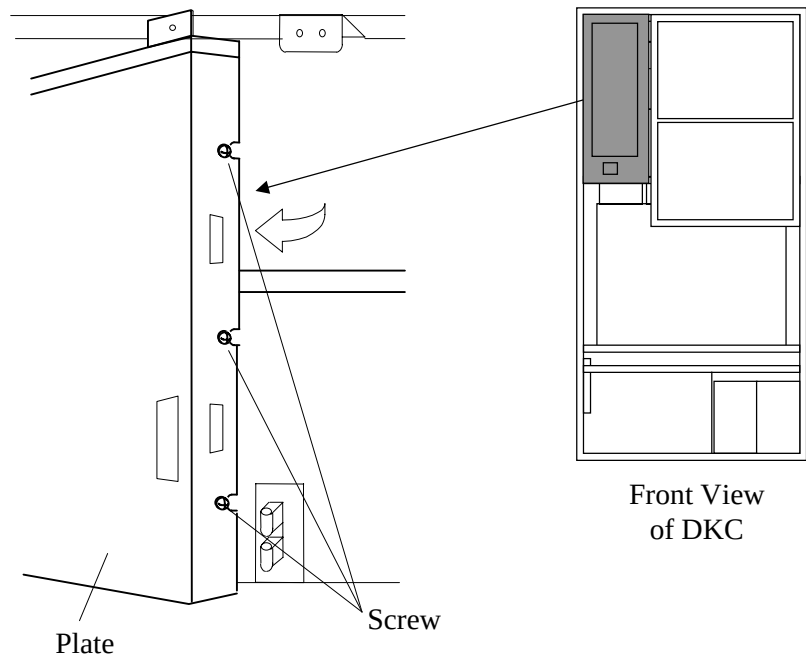

Fig. 4.8-3 Removal of Plate
- h. Attach the plate to the Movable rack and fasten the three screws. Refer to Fig. 4.8-3.